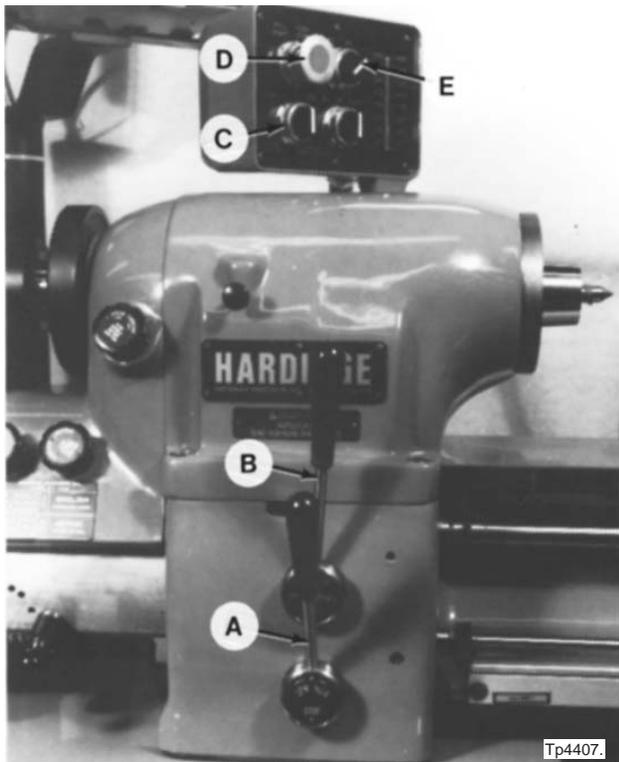
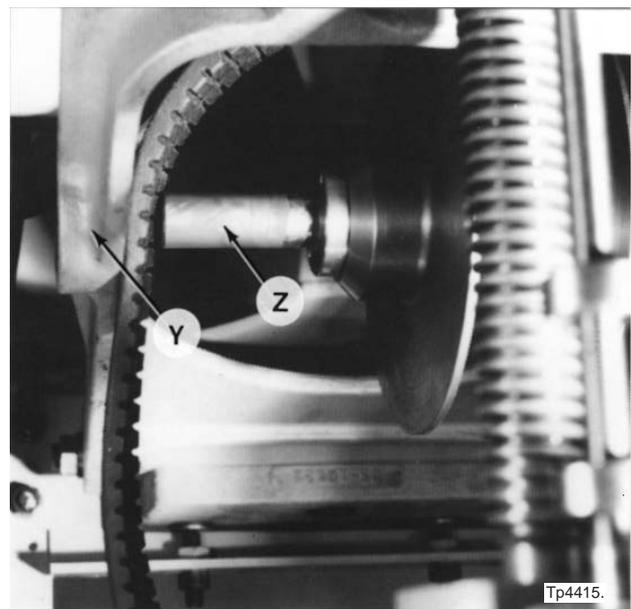

Figure 3.1 - HLV-H Headstock
Figure 3.9 Belt Removal Over Countershaft
1. On HLV®-H machines, place lever "A", Figure 3.1, in the "Stop" position and lever "B" in the center position.
2. Pull "Start/Stop" pushbutton "D", Figure 3.1, OUT to turn the machine ON.
5. Turn speed adjustment knob "C", Figure 3.1, to "Faster" and hold in that position until spindle speed stabilizes at 3000 rpm.
7. Press “Start/Stop” pushbutton “D”, Figure 3.1, IN to turn the machine OFF.
1. Press “Start/Stop” pushbutton “D”, Figure 3.1, IN to turn the machine OFF.
1. On HLV®-H machines, place lever “A”, Figure 3.1, in the “Stop” position and lever “B” in the center position.
2. Pull “Start/Stop” pushbutton “D”, Figure 3.1, OUT to turn the machine ON.
3. On HLV-H machines, place lever “A”, Figure 3.1, in “Low” range.
4. Turn speed adjustment knob “C”, Figure 3.1, to “Slower” and hold in that position until spindle speed stabilizes at 125 rpm.
6. Press “Start/Stop” pushbutton “D”, Figure 3.1, IN to turn the machine OFF.
14. Pull “Start/Stop” pushbutton “D”, Figure 3.1, OUT to turn the machine ON.
16. Turn speed adjustment knob "C", Figure 3.1, to "Faster" and hold in that position until pulley hanger assembly "Y", Figure 3.9, reaches maximum upward travel.
17. On HLV-H machines, place lever "A", Figure 3.1, in the "Stop" position and allow the spindle motor to coast to a stop.
18. Press "Start/Stop" pushbutton "D", Figure 3.1, IN to turn the machine OFF.
19. Slide countershaft assembly "Z", Figure 3.9, to the extreme right and remove both belts over the left end of the countershaft.
35. Slide the new motor belt over the left end of countershaft assembly "Z", Figure 3.9, and onto the right pulley on the countershaft assembly.
39. Slide the new headstock belt over the left end of countershaft assembly "Z", Figure 3.9, and onto the left pulley of the countershaft assembly.
55. Turn speed adjustment knob "C", Figure 3.1, to "Slower" and hold in that position until pulley hanger assembly "Y", Figure 3.9, reaches maximum downward travel.